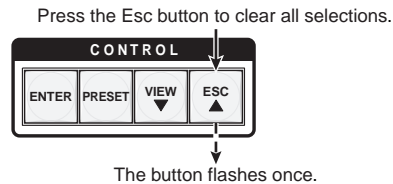

Figure 3-30 — Clear all selections
1. Press and release the Esc button (figure 3-30).